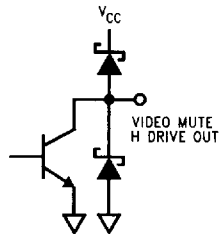

FIGURE 5
**Pin 3 - VIDEO MUTE:** This NPN open-collector output produces an active-low pulse when triggered by a step change of H sync frequency. See Figure 5 for the output schematic.
**Pin 20 - H DRIVE OUT:** This is an open-collector output which provides the drive pulse for the high power deflection circuit. The pulse duty cycle is controlled by pin 14. Polarity convention: Horizontal deflection output transistor is on when H DRIVE OUT is low. See *Figure 5* for the output schematic.